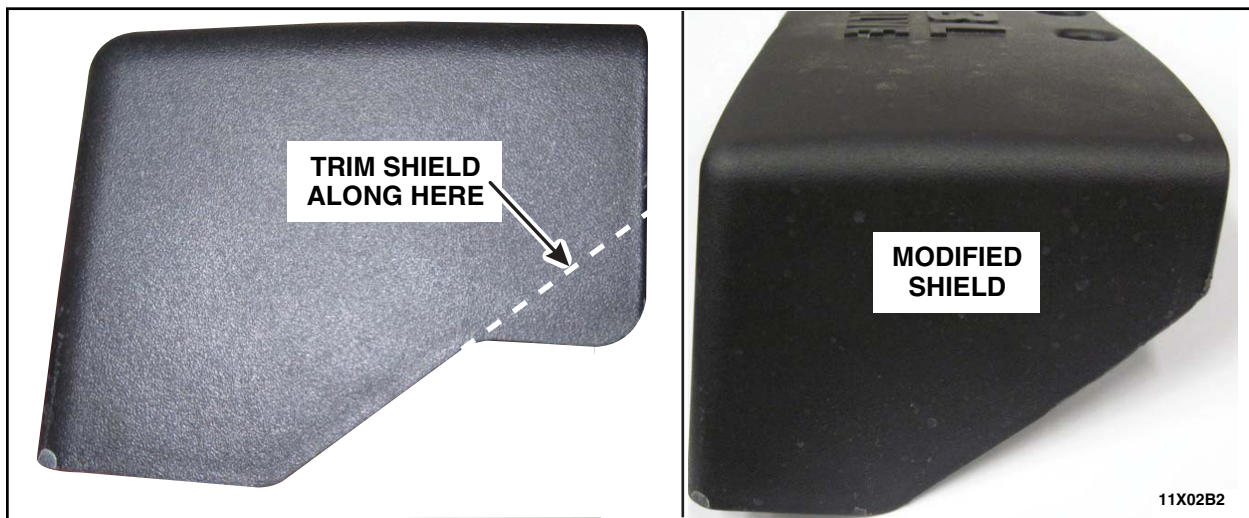

FIGURE 2
2. Trim the drivers side of the throttle body shield to increase throttle body shield to fuel line clearance. See Figure 2